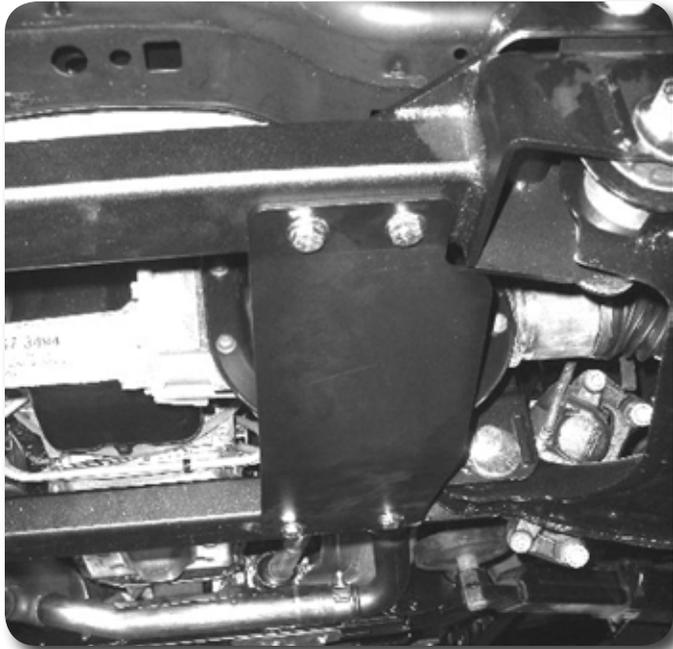

Figure 28
46. Install the provided differential skid plate to the front and rear crossmembers with $\frac{1}{2}$ " x $1\text{-}1/4$ " bolts with Loc-tite and $\frac{1}{2}$ " SAE washers (BP #776) into the weld nuts in the crossmembers (Figure 28). Torque to 65 ft-lbs.